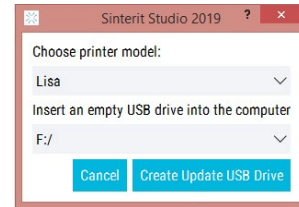

Fig. 4.1 Creating update files.
2. Choose the printer model you want to update (Fig. 4.1).
3. Insert the USB flash drive into the USB port on your computer, then click **Create Update USB Drive**. The process may take a few minutes(Fig. 4.1).